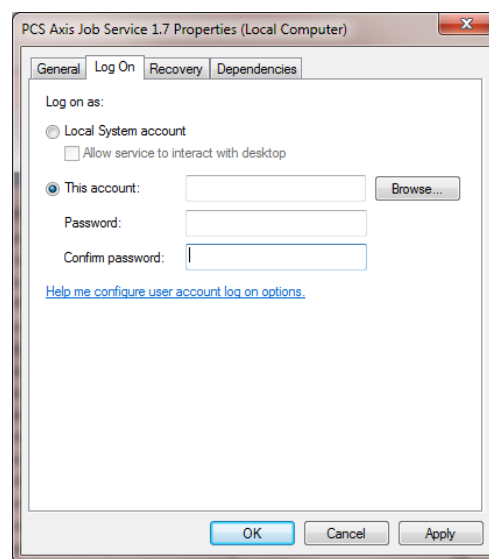
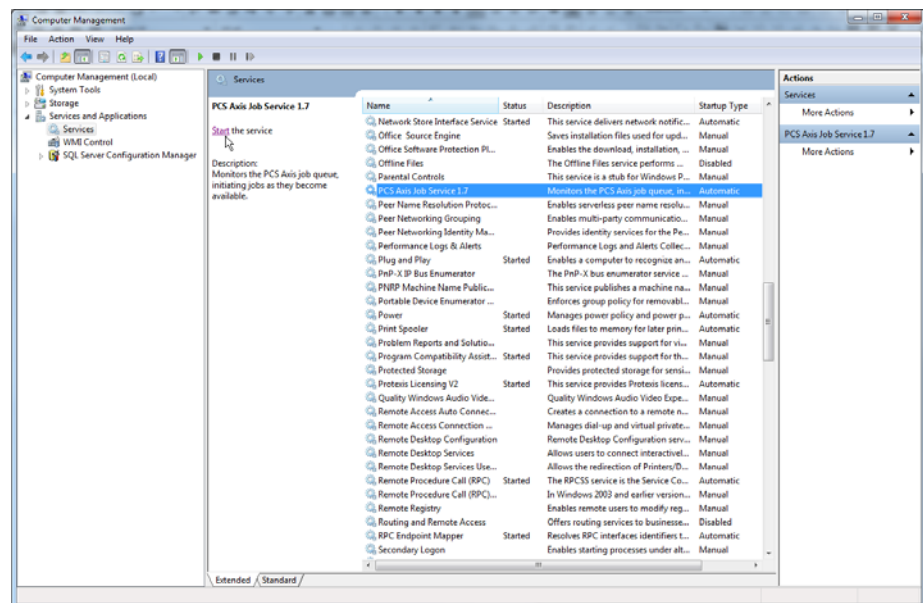

Figure 11-6. PCS Axis Job Service Properties
Figure 11-7. Computer Management Console
- c Right-click **PCS Axis Job Service 1.7** (Figure 11-7) and select **Properties** in the shortcut menu to open the *Properties* dialog box (Figure 11-6).
- a Select **PCS Axis Job Service 1.7** and then click **Start** (Figure 11-7).